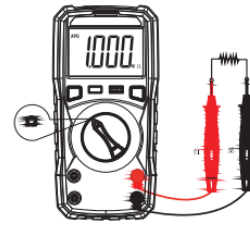

Figure 4
**(3). RESISTANCE MEASUREMENT (Figure 4)**